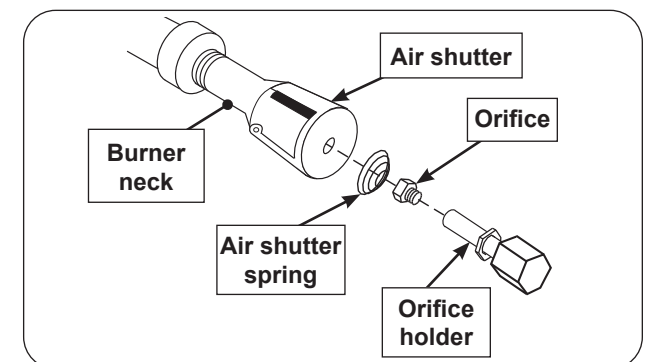

Fig. 39-3 Burner replacement diagram
2. Squeeze the collimator to detach the rear tab from the rear liner as shown in Fig. 39-3, A, and lift up the rear portion of the collimator.
3. Detach the collimator from the front collimator support and completely remove the collimator as shown in Fig. 39-3, B.
4. To re-install, position the air shutter spring and air shutter over the orifice holder fitting, between the burner and the heat shield, in the order and position shown in Fig. 39-3. Do for both burner necks.